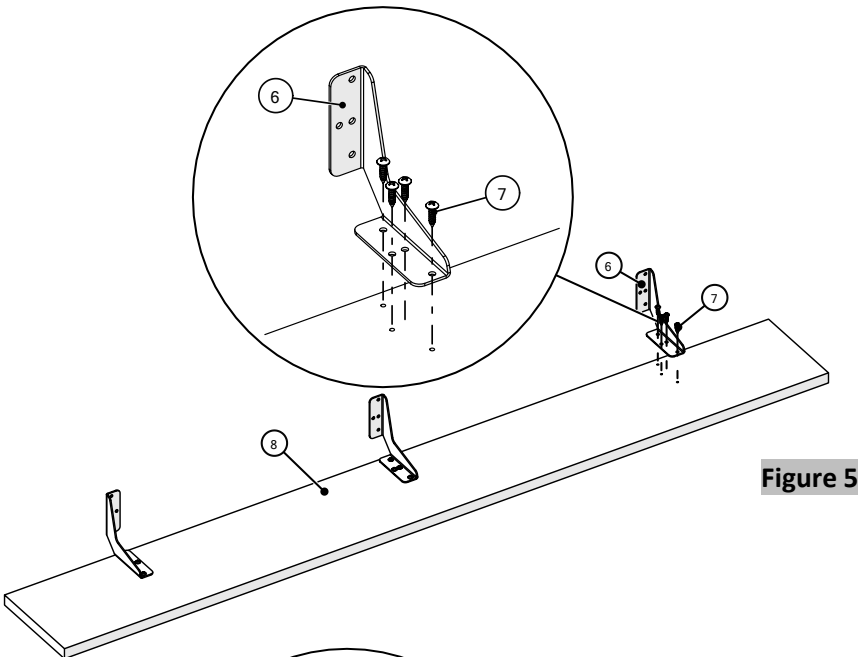

Figure 5
6. Position the cantilever bracket over pilot holes of modesty; insert (4) #8 x 5/8" Pan Quadrex drive screws per bracket and tighten, (Figure 5).